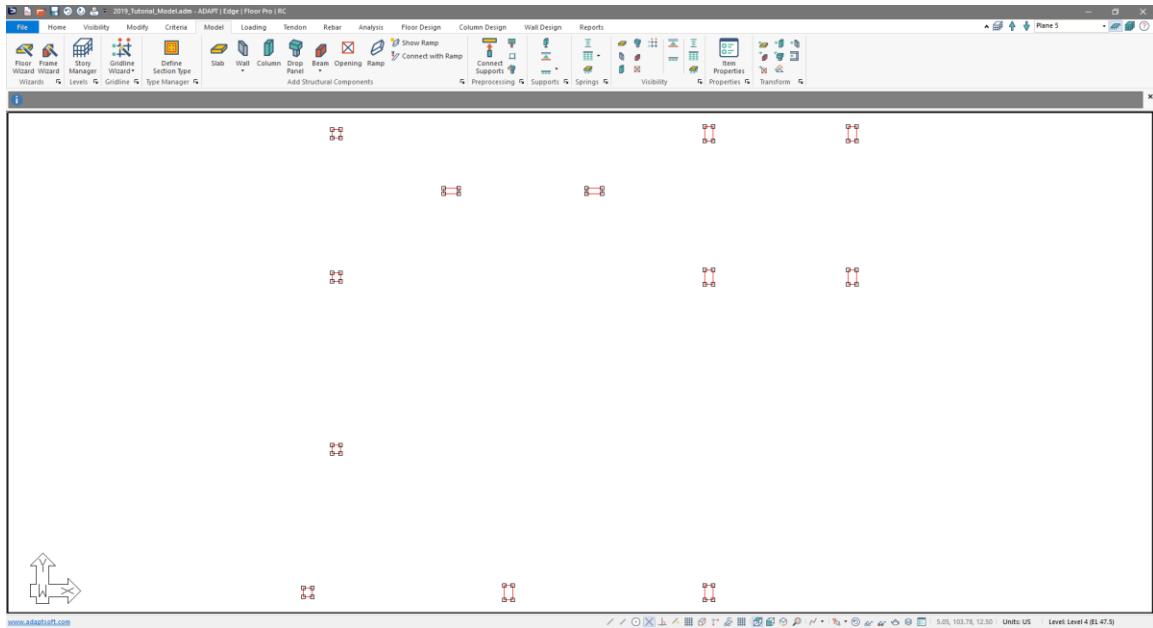

Figure 4-12
- Left-click and hold the left click of your mouse in the upper left white space and drag your mouse to the lower right so that the selection icon encompasses all the column CAD entities. Release the left button of the mouse to select all of the column CAD entities, all columns should now be selected as shown in **FIGURE 4-12**.